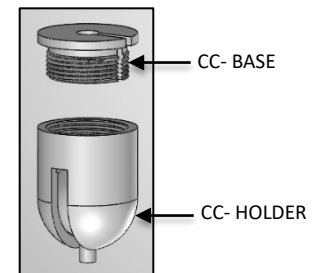

FIG. 13 - CEILING COUPLER ASSEMBLY
2. Dis-assemble the CEILING COUPLER into two components CC-BASE, CC-HOLDER as shown in FIG. 13.